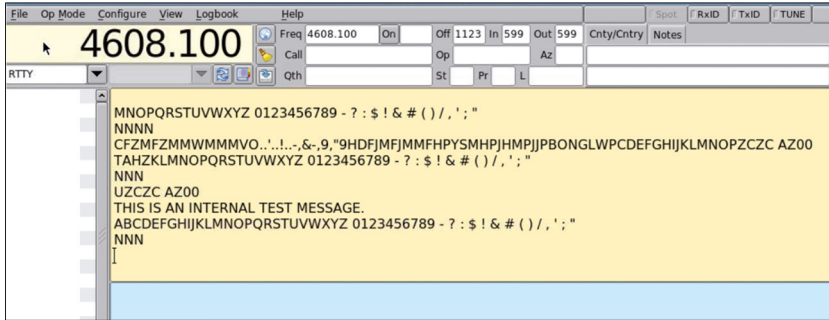

Figure 13.14: Give NAVTEX decoding a test run.
- Set the two vertical lines to the sides of the waterfall. You should see messages similar to Figure 13.14 displayed on your fldigi screen.